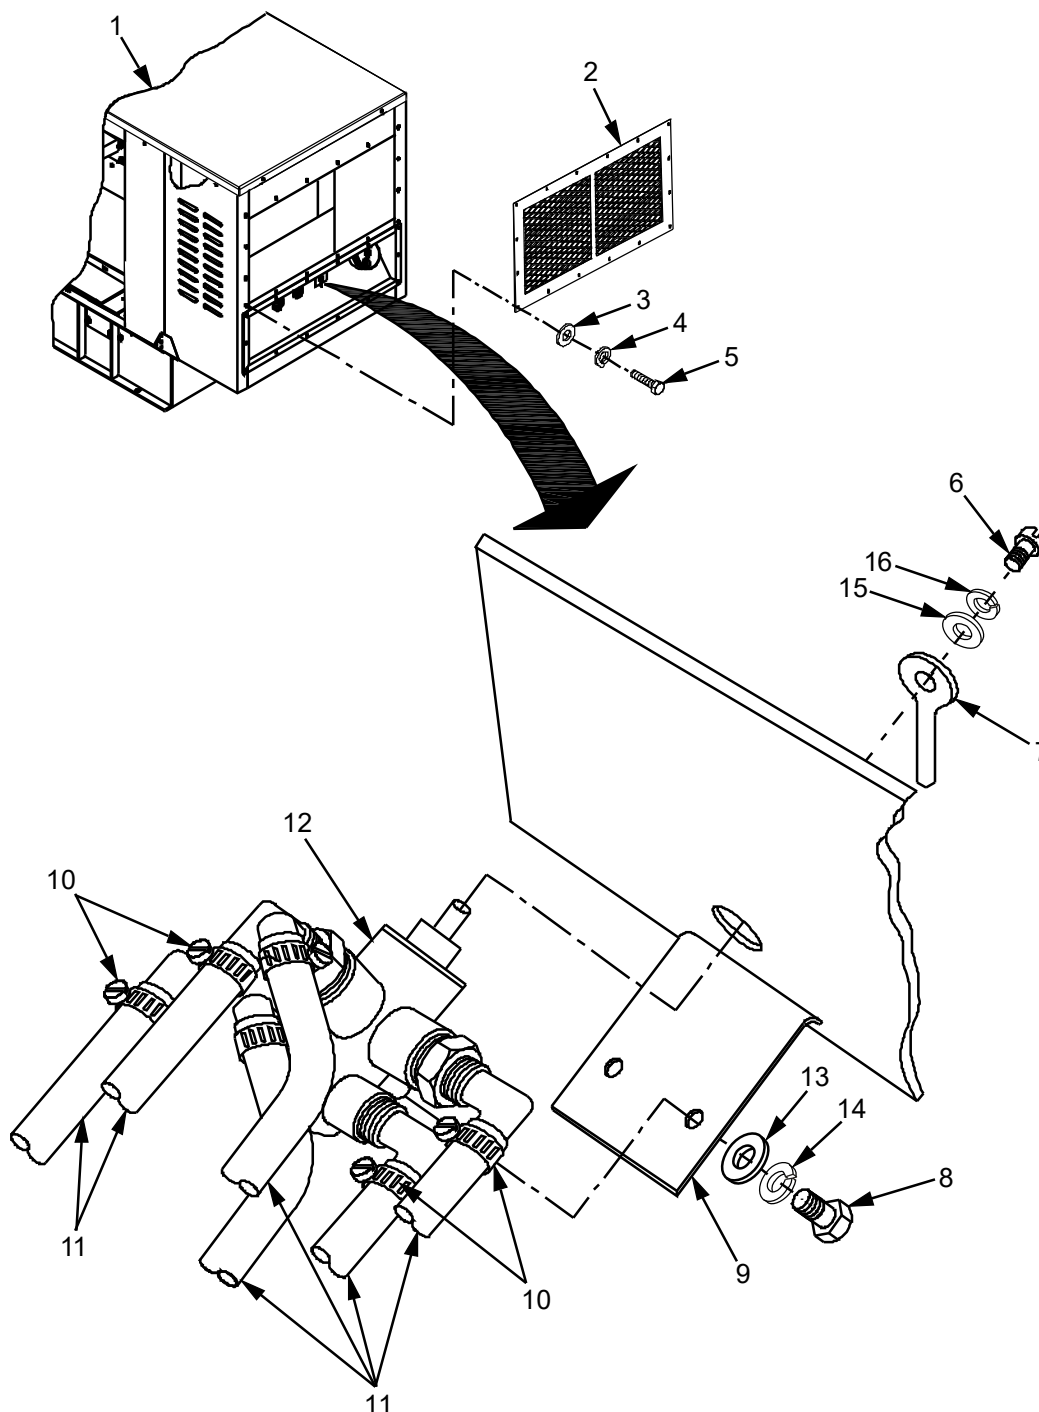

Figure 2. Fuel Selector Switch Removal/Replacement.
8. Remove and retain two bolts (Figure 2, Item 8) that secure selector switch (Figure 2, Item 12) to bracket (Figure 2, Item 9). Remove selector switch (Figure 2, Item 12).
1. Place selector switch (Figure 2, Item 12) onto bracket (Figure 2, Item 9) and secure using two bolts (Figure 2, Item 8).
2. Inspect input and output hoses (Figure 2, Item 11) and replace as necessary.
3. Install input and output hoses (Figure 2, Item 11) onto proper ports of selector switch (Figure 2, Item 12).
4. Install selector switch handle (Figure 2, Item 7) and secure using locking screw (Figure 2, Item 6).
5. Install radiator access panel (Figure 2, Item 2) onto Genset (Figure 2, Item 1) and secure using sixteen bolts (Figure 2, Item 5), lock washers (Figure 2, Item 4), and flat washers (Figure 2, Item 3).